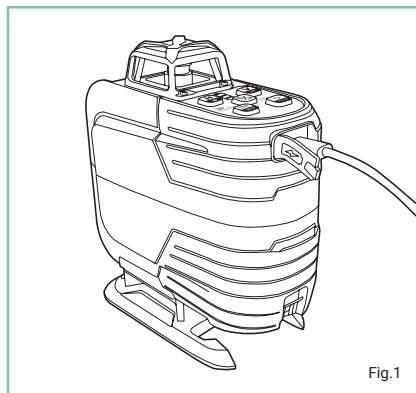

Fig.1
- Insert the charging cable (USB-C) into the charging port on the laser (Fig. 1).